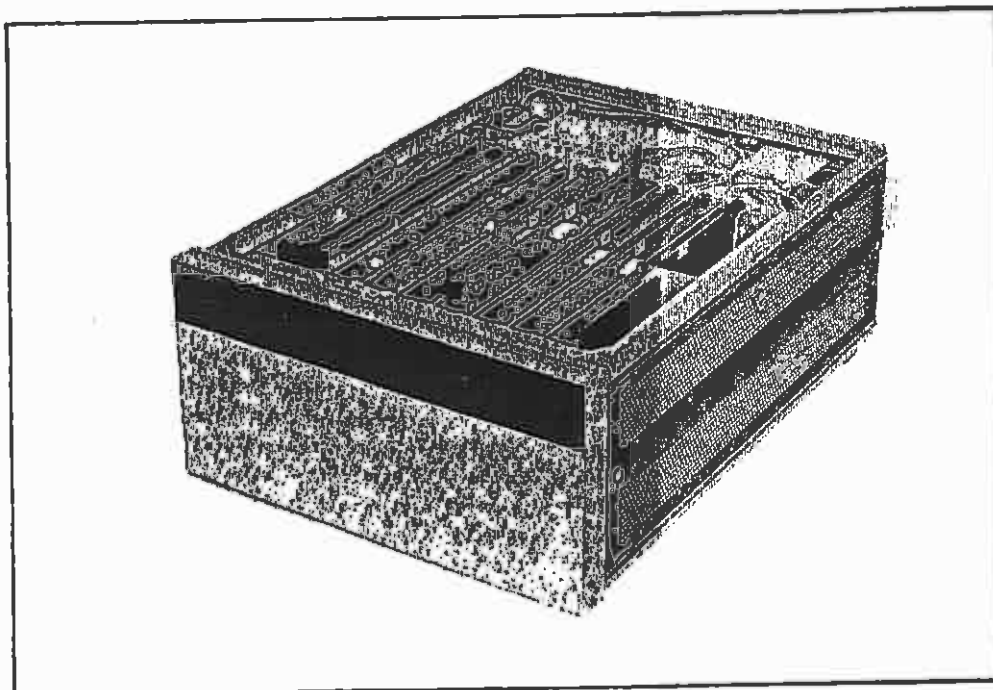

Figure 4-3. SMU Board Removal
- (1) Turn off and unplug the 4141B.
- (2) Remove the top cover.
- (3) Remove the shielding plate. The instrument's interior will be visible, as shown in Figure 4-3. SMU 1 is the one closest to the LINE ON/OFF switch, SMU 4 the farthest.
- (4) Remove the faulty SMU board by lifting the green and black tabs on the ends of the board. Pull the SMU board halfway out of its slot and disconnect the cables from the 10-pin connector and the two SMU connectors. Pull the board out.